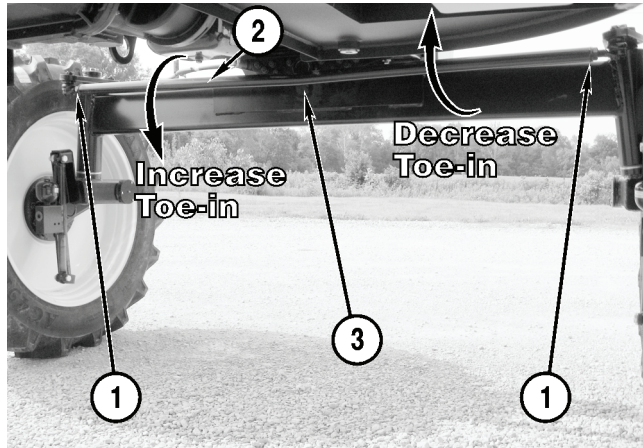

Figure 5-61
1. Loosen the jam nut (**Figure 5-61, 1**) at each end of the tie rod (**Figure 5-61, 2**).
4. Position the tie rod so the bend (**Figure 5-61, 3**) is pointing downward and tighten the jam nuts.